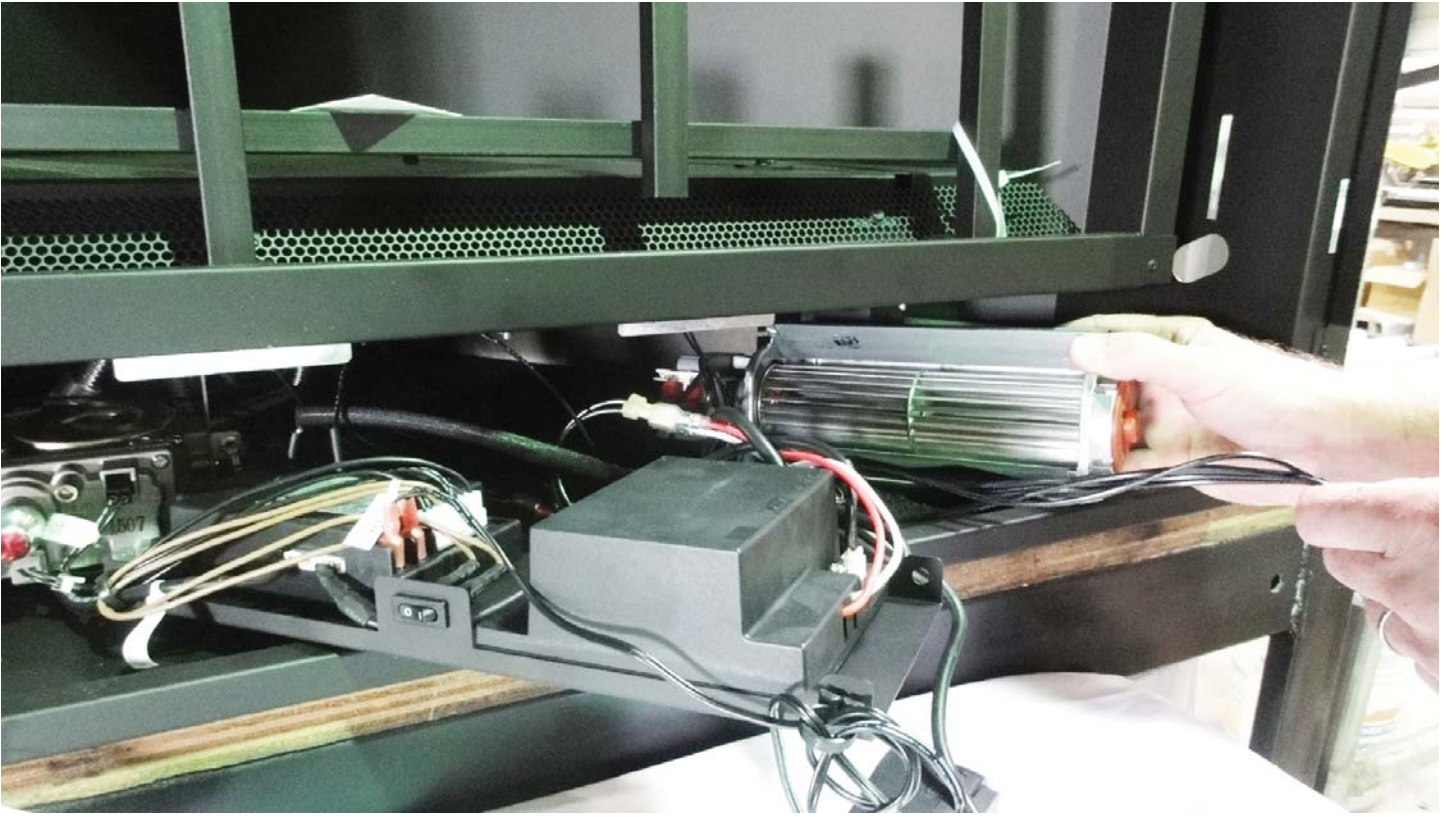

Figure 3
5. Move the module assembly. (It is held in place by velcro strips.) Place the right side blower to the right and behind the support left. Figure 3